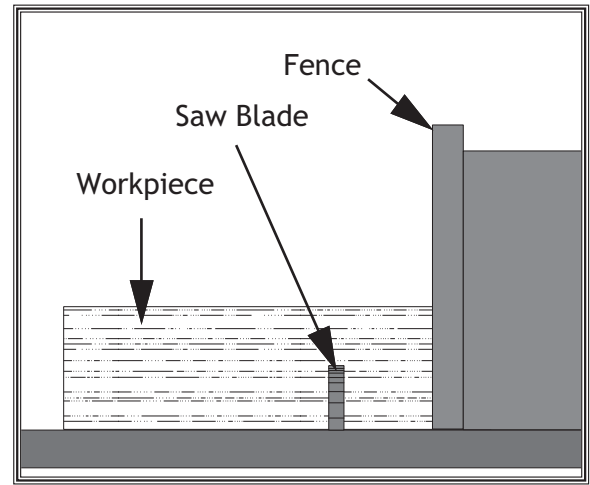

Figure 50. First cut when rabbet cutting with a standard rip blade.
4. Adjust the fence so the blade is aligned with the inside of your rabbet channel as shown in **Figure 50**.